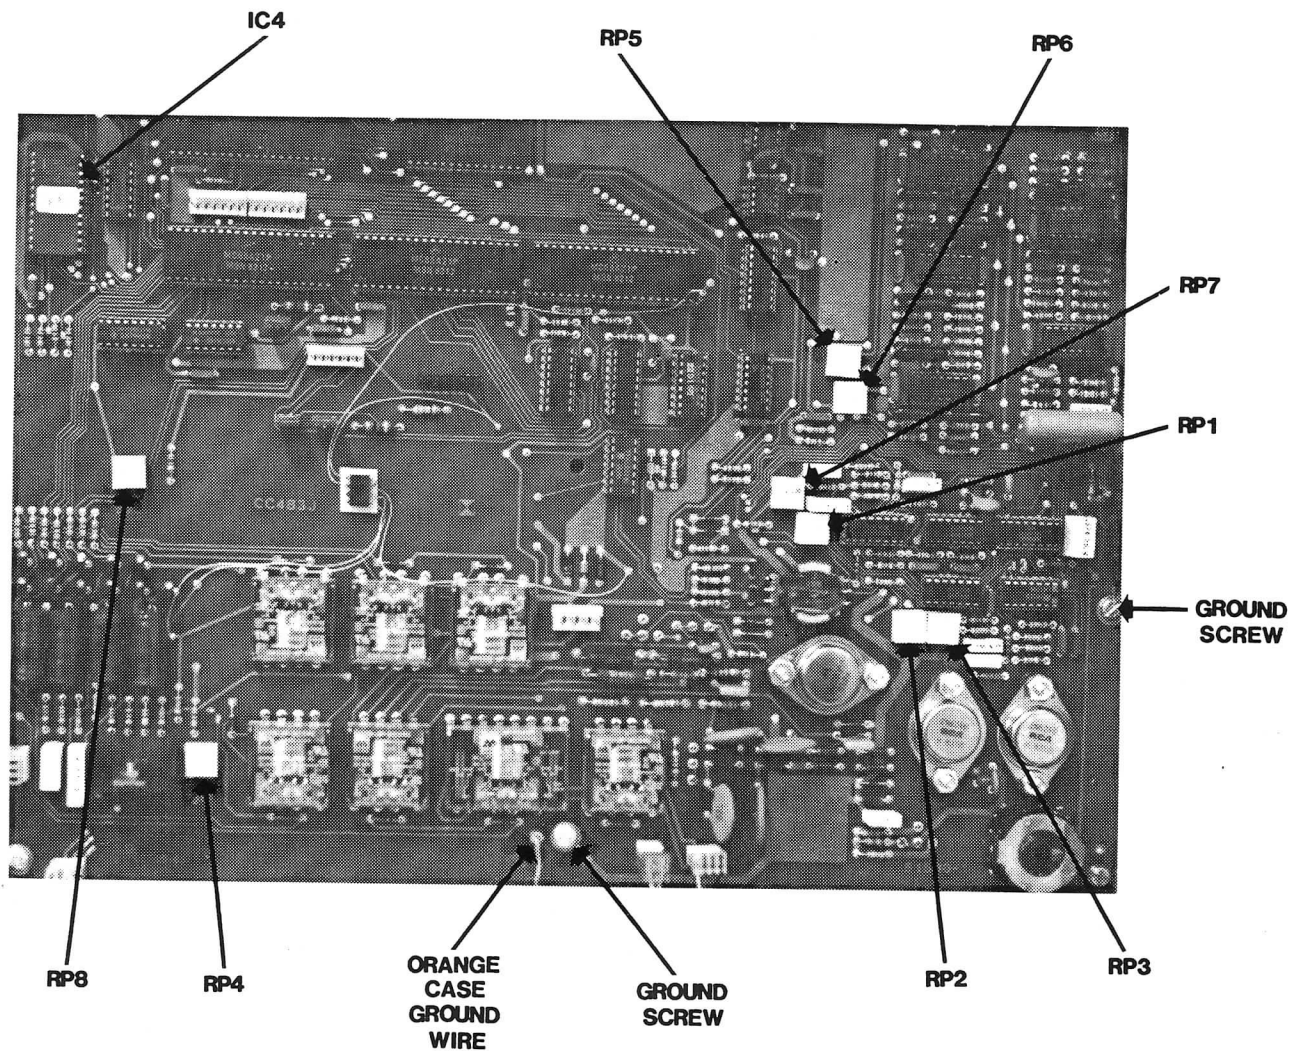

Figure 5. Locations of Adjustment Pots and IC4 on 51500-1 Board.
Turn the 51500 off. Remove IC4 (the 51500 Operating Program) from the 51500-1 circuit board. See Figure 5. Insert the 51500 Field Calibration PROM in its place. Turn power on. Verify that the instruction window reads "51500II CLIBRATION PROM". No other lamps should be on.
Adjust RP8 (see Figure 5) on the 51500-1 board for best readability of the instruction window. Good readability should be determined from a seated position directly in front of the unit.
5.7.3 Adjust RP7 (see Figure 5) until the dc voltmeter reads as close to 0V as possible.
5.8.2 Press CONTINUITY. Adjust RP4 on the main circuit board (see Figure 5) until 20mA is measured. Once RP4 is set, disconnect the milliammeter.
5.9.4 Adjust RP1 on the main circuit board (see Figure 5) until the PASS indicator lights.
5.9.6 Adjust RP6 (see Figure 5) until the PASS indicator lights.
5.9.8 Adjust RP5 (see Figure 5) until the PASS indicator lights.
5.10.3 Press ALTERNATE FUNCTION 1. Adjust RP3 on the main circuit board (see Figure 5) until the PASS indicator lights. When PASS is indicated, remove the sound level calibrator from the artificial ear.
5.10.7 Press ALTERNATE FUNCTION 2. Adjust RP2 on the main circuit board (see Figure 5) until 90dB is measured on the meter.